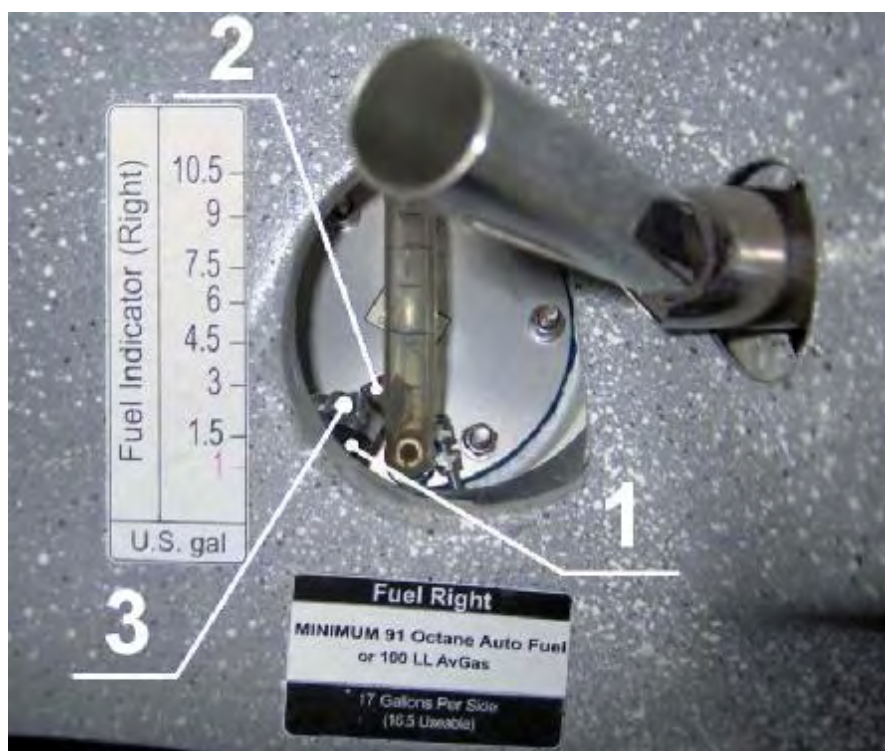

Fig. 16
- 17) Connect the fuel feed line from the fuselage to the wing, e.g. set the fuel hose C9993184A (1) onto the connector (2) up to the stop, having the 13 mm clamp C9997715G on it (Fig. 16).
- 18) Attach the fuel hose C9993184A (1) by the 13 mm clamp C9997715G (3) (Fig. 16).